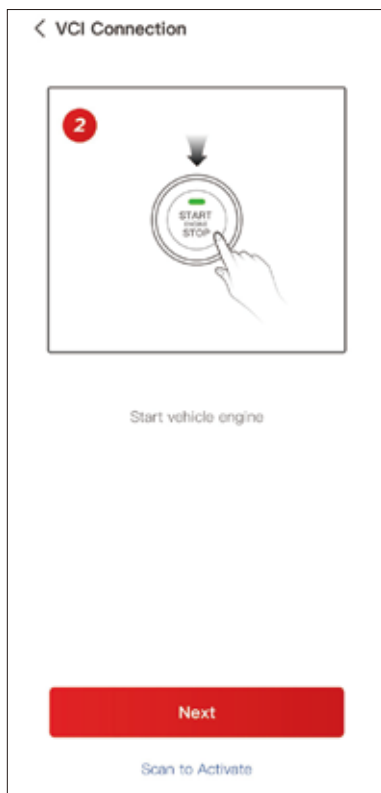

Figure 3-5
- ② Start the engine of the vehicle as prompted on the guided interface. Then tap Next (See Figure 3-5).